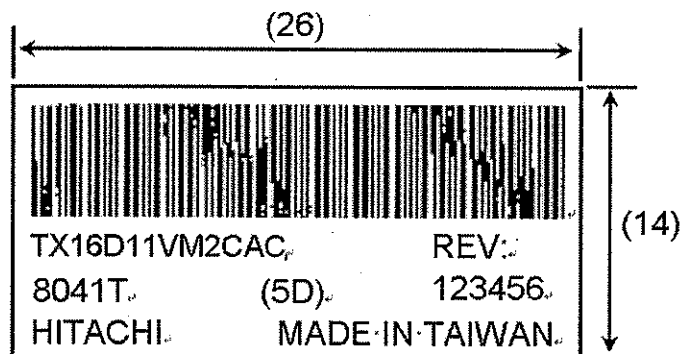

Fig 14.3
- 1) The lot mark is showing in Fig.14.3. First 4 digits are used to represent production lot, T represented made in Taiwan, and the last 6 digits are the serial number.
- 4) The location of the lot mark is on the back of the display shown in Fig. 14.3.